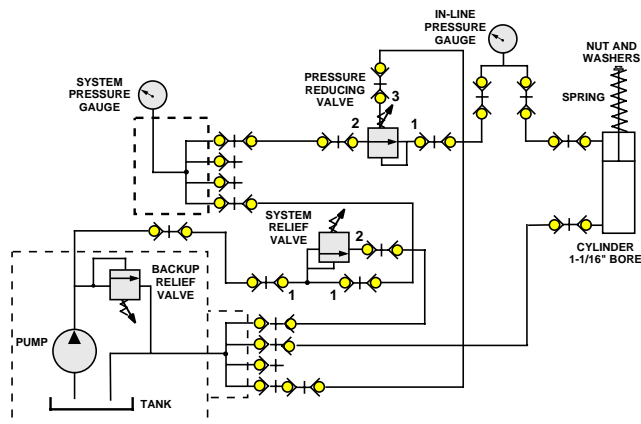

Fig. 3.4.19 Pressure Reducing Valve Circuit
1. Construct the circuit in Figure 3.4.19